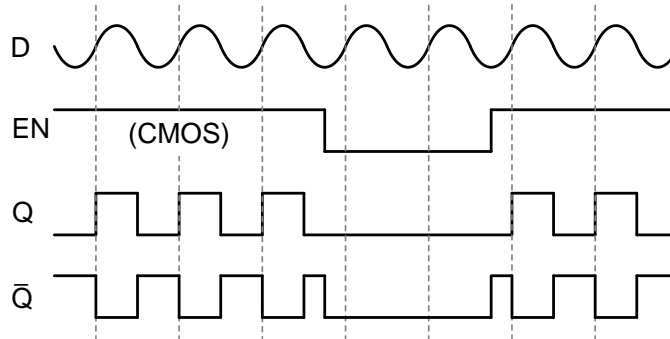

Figure 3 - Timing Diagram
Figure 3 illustrates the timing sequences for the AZP94 in the ÷1 mode which is determined by leaving the DIV-SEL open (NC). It also illustrates the enable in the active High mode being controlled by a CMOS signal. This mode is determined by leaving the EN-SEL open (NC).